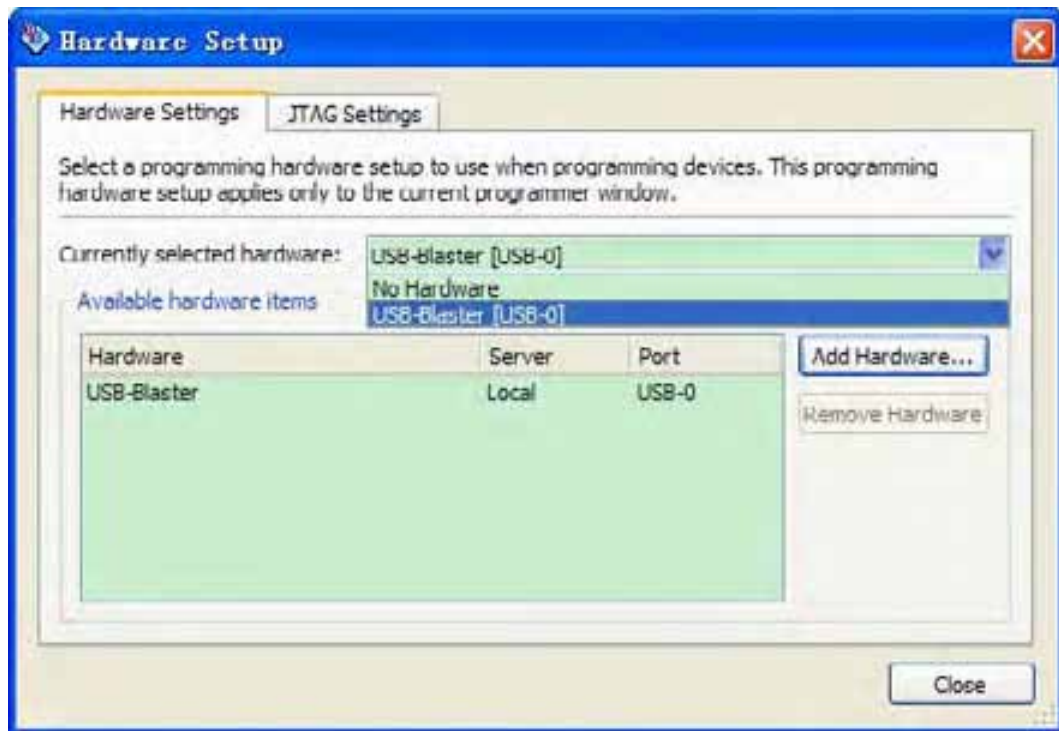

Figure 6-47 Hardware Setting
3. If it is not already turned on, turn on the USB-Blaster [USB-0] option under currently selected hardware, as shown in Figure 6-47.